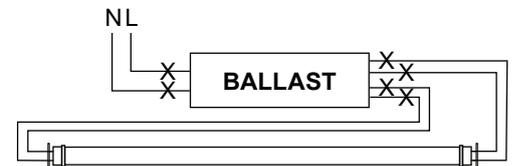

Fig. 1
5. Cut off wires connected to ballast, and remove ballast (and starter if present). Dispose off removed ballast according to federal, state and local laws. (Fig. 1)